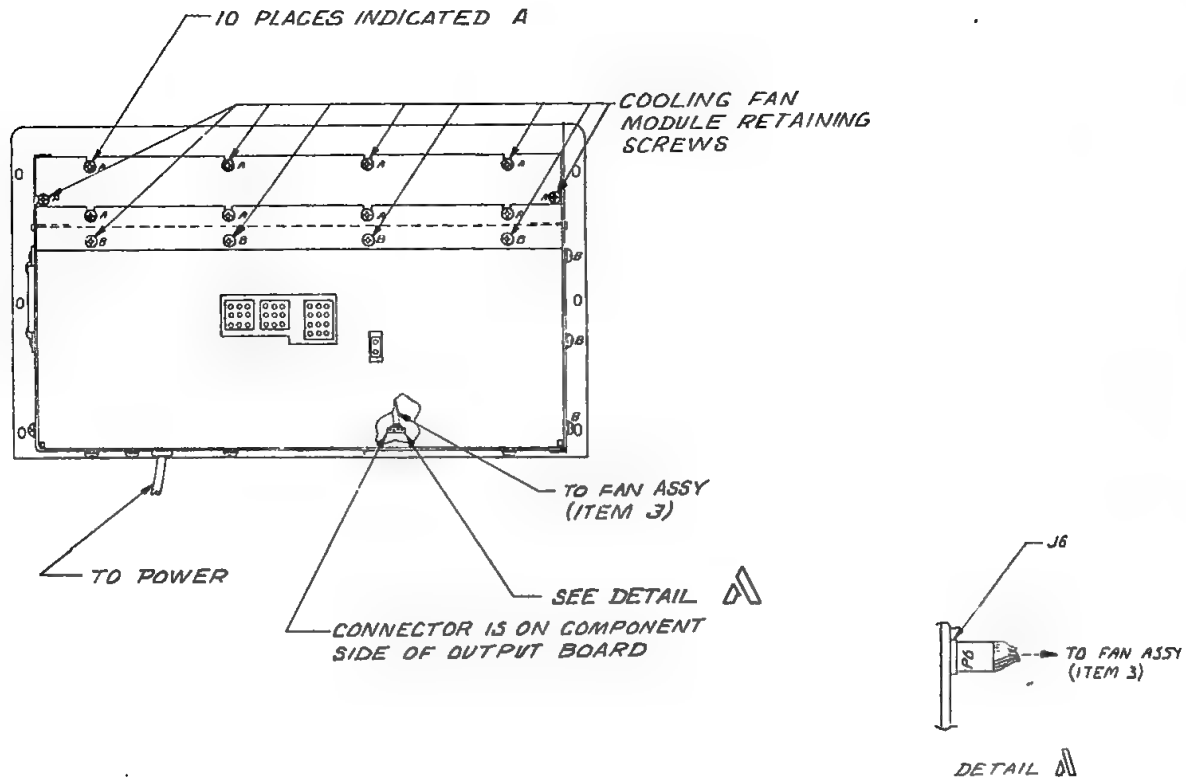

Figure 4-1. Cooling Fan Module Diagram
- d. Remove the fan housing from the power supply module by removing the 4-40 screws on the power supply fan restraint, see Figure 4-1 and then slide the fan housing out of the power supply module. Set the fan housing next to the power supply, ensuring that the DC power cable running from the power supply to the fan module is not damaged.